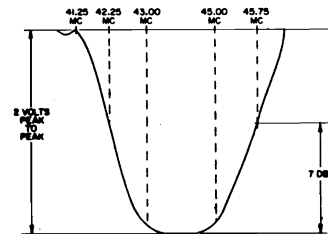

Figure 10 - IF Response, Mixer Grid to 2nd Det.
| 5. | Oscilloscope to T.P. (B) and sweep generator at 44 MC center to T.P. (M) adjust for approximately 2V-PP. Couple CW marker generator to sweep gen. | Mixer output coil: Maximum amplitude T200: Rocking symmetrical response at approximately the center of the passband so that the mixer carrier (45.75 MC) is placed 7DB down from the peak response. See Figure 10. |